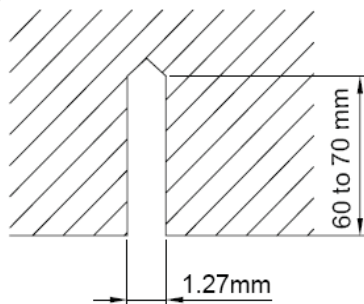

Figure 3-1-27
- (2) Install the bolts to the ceiling at a place strong enough to hang the unit. Mark the bolt positions from the installation template. With a concrete drill, drill for 12.7 mm (1/2") diameter holes. (Figure 3-1-27)